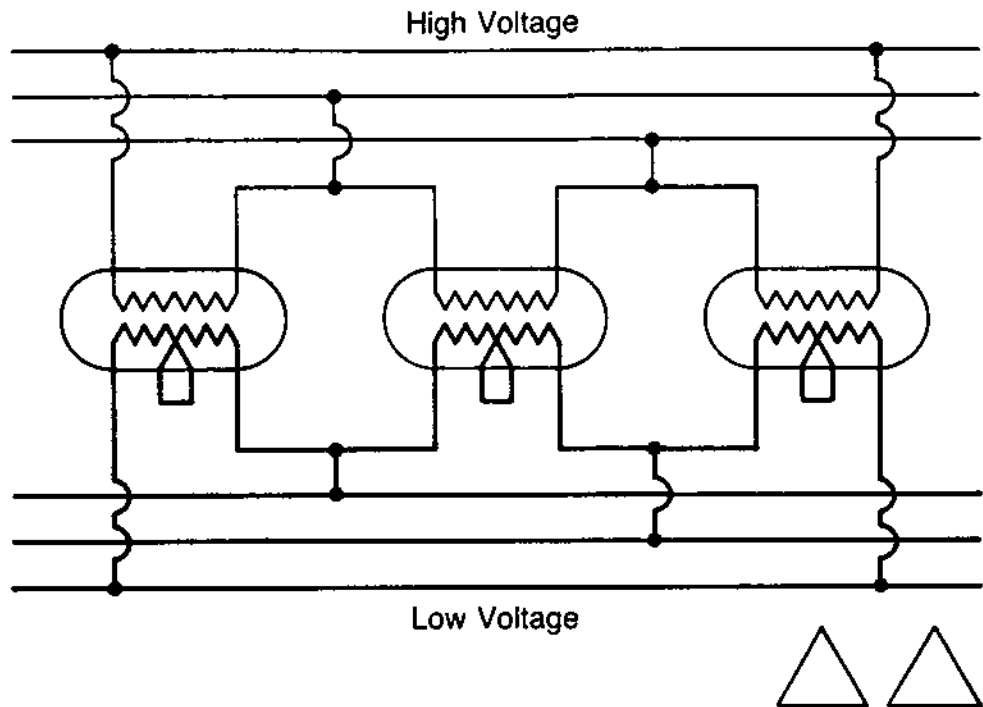

Fig. 32 – Three-Phase, Closed Delta Connection
a. Three-phase, closed-delta connection is shown in Figure 32. When three transformers are operated in a closed delta bank, the impedances must be nominally equal. Transformers having impedances that differ by more than ten percent should not be operated together in a closed delta bank, unless a reactor is used to raise the impedance of the lowest unit equality with the other two transformers.